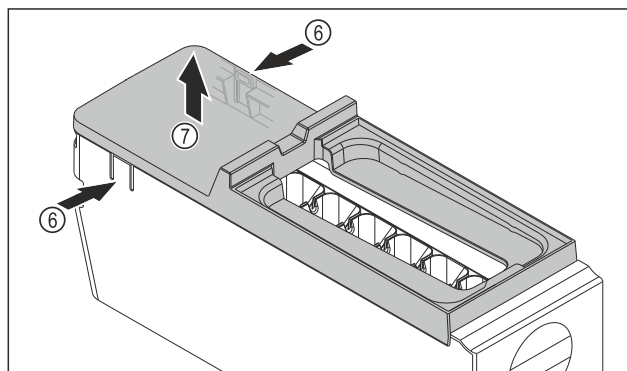

Fig. 149
- Removing the EasyTwist-Ice body cover: Push the tabs Fig. 149 (6) on both sides of the EasyTwist-Ice body with one hand.
- Use the other hand to remove the cover Fig. 149 (7) upwards.